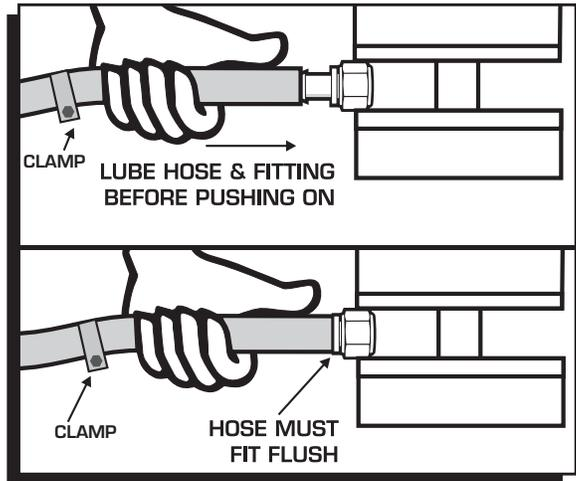

Figure 12 Installing Fuel Hose to the Push-Lock Fittings.
2. Before installing the hose to the fitting, it is important to anchor the fitting (Figure 12). Proper installation may be difficult when holding the hose and fitting with your hands. For best results, the hose should be installed with minimal twisting or pausing.